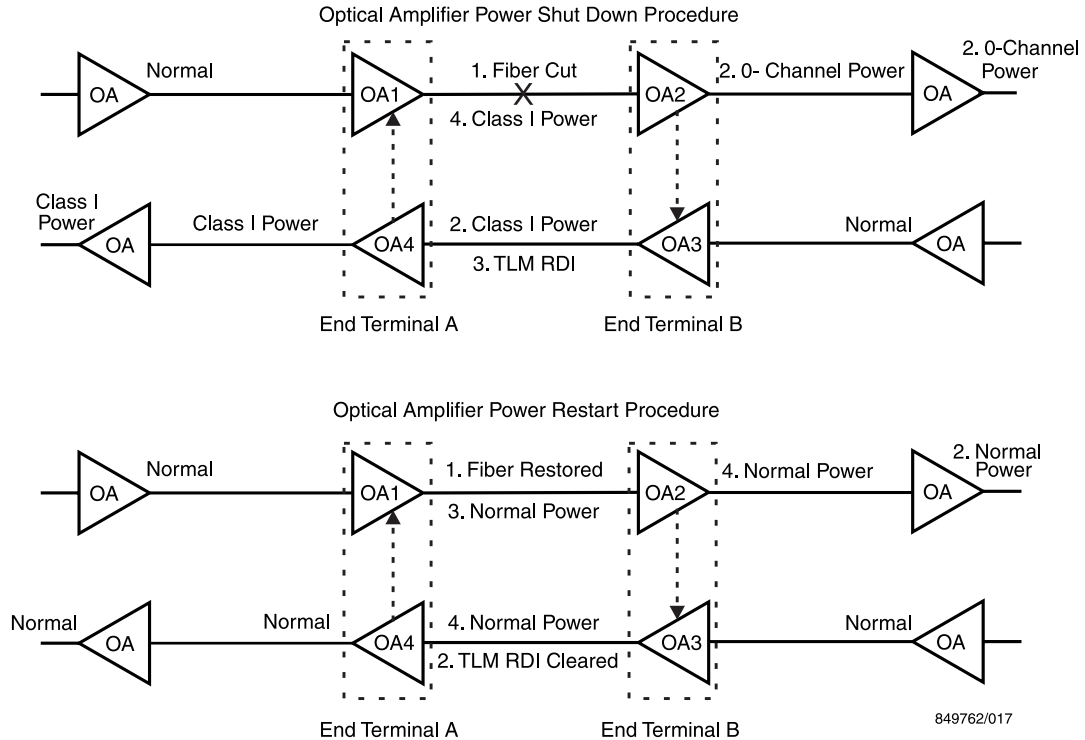

Figure 9-2. Automatic Optical Amplifier Power Shut Down and Restart Example
Figure 9-2 shows an example of automatic power shut and restart in a *WaveStar* OLS 40G with two OA circuit packs.
In Figure 9-2, when the (1) fiber cut occurs, the End Terminal B detects an incoming loss of signal. (2) The OA2 circuit pack powers down to the 0-channel level and (2) the OA3 circuit pack powers down to Class I levels within 850 milliseconds of the fiber cut. (3) The OA3 circuit pack also transmits a telemetry remote defect indicator (TLM RDI) signal downstream. End Terminal B also reports the APSD active - NE status. When End Terminal A detects the TLM RDI signal, (4) the OA1 circuit pack powers down to Class I levels. End Terminal A also reports the APSD active - FE status.
In Figure 9-2, when the (1) fiber cut is repaired, (2) the End Terminal B clears the incoming loss of signal, TLM RDI signal, and the APSD active - NE status. When the End Terminal A detects no TLM RDI signal, (3) the OA1 circuit packs power up to normal levels. End Terminal A also clears the APSD active - FE status. (4) The OA2 and OA3 circuit packs also power up to normal levels.